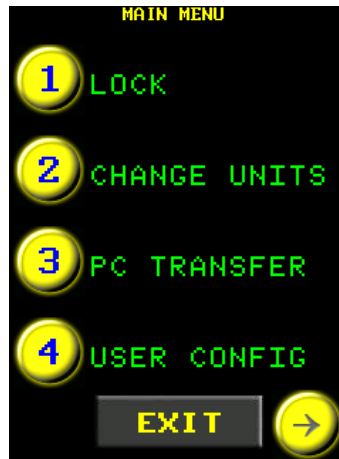

Figure 6-1: Main Menu
2. Select "User Config" from the Main Menu (Figure 6-1).